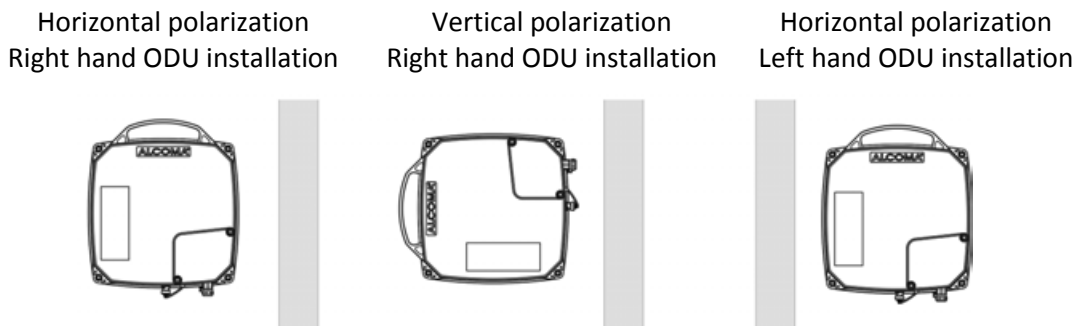

Figure 32 Setting of polarization for AL80GE
- Rotate ODU by 90° to the left or to the right. Grommet of interconnect cable must point down for horizontal polarization ant to the side for vertical polarization – see figure 32.